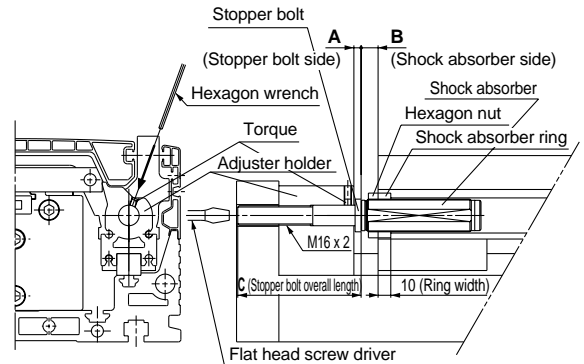

Figure 1. Stroke adjusting section detail
- As shown in Figure 1, to adjust the stopper bolt within the adjustment range A, insert a hexagon wrench from the top to loosen the hexagon socket head set screw by approximately one turn, and then adjust the stopper bolt with a flat head screw driver.